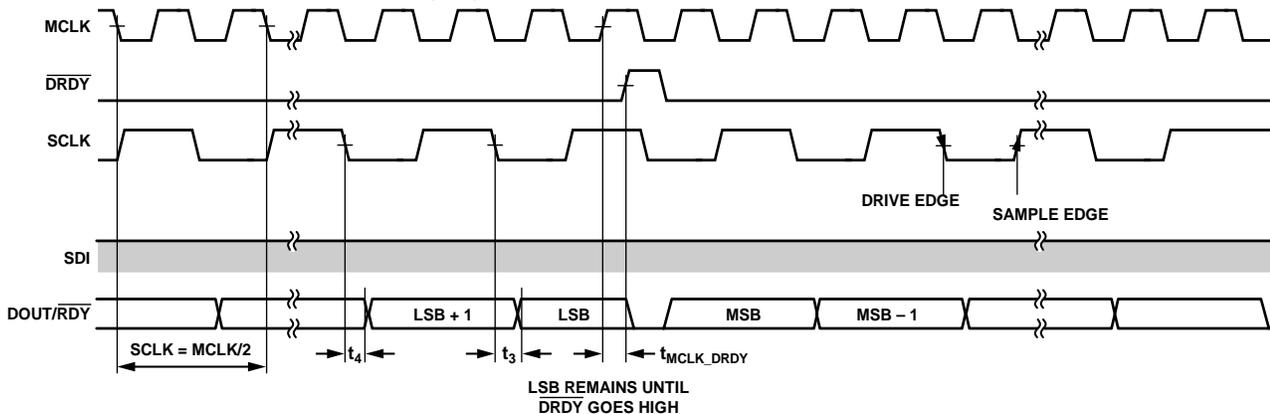

Figure 109. Recommended Interface for Reading Conversions, SPI Control, Continuous Readback Mode
DSPs and microcontroller units (MCUs). To achieve maximum performance, the recommended interface configuration for reading conversion results is shown in Figure 109. This recommended implementation uses a synchronous SCLK to MCLK relationship.
Figure 109 shows how the recommended interface operates. The data read back spans the entire length of the  $\overline{DRDY}$  period
5. Generate SCLK based on the  $\overline{DRDY}$  or  $\overline{RDY}$  timing. SCLK is high when the  $\overline{DRDY}$  signal goes high and transitions on the MCLK falling edges (see Figure 109) to ensure that the LSB can be read correctly as the DOUT/ $\overline{RDY}$  output is reset on the  $\overline{DRDY}$  rising edge. However, SCLK rising occurs before this transition.
Because the full ODR period is for clocking data, the  $\overline{RDY}$  signal no longer flags after each LSB outputs. This signal only flags if the ADAQ7768-1 is in continuous readback mode, or if the ADAQ7768-1 does not count 32 SCLKs within  $1 \times t_{MCLK}$  before  $\overline{DRDY}$ , as is shown in Figure 109.